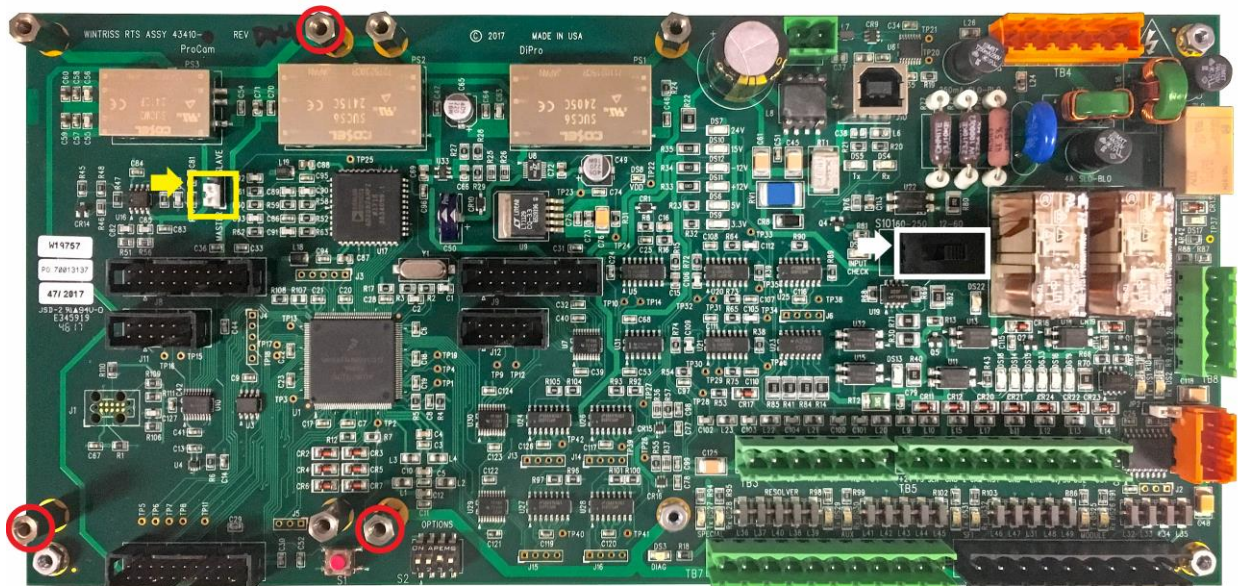

Figure 1. SmartPAC PRO RTS Board
7. With a ¼-in. nut driver, unscrew all nuts (4) and standoffs (5) except the three circled in red (Figure 1 below).
10. Set the JP101 Master/Slave jumper (Figure 1 outlined in yellow) and S101 Input Check switch (Figure 1 outlined in white) in the same positions as the malfunctioning board you just removed.